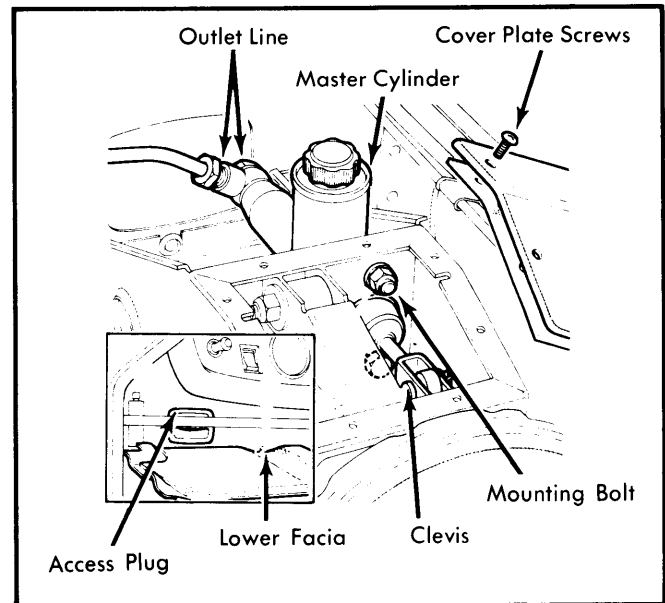

Fig. 2 Items to Take Off in Order to Free Master Cylinder for Removal
3) Pull out rubber access plug in bulkhead. See Fig. 2.